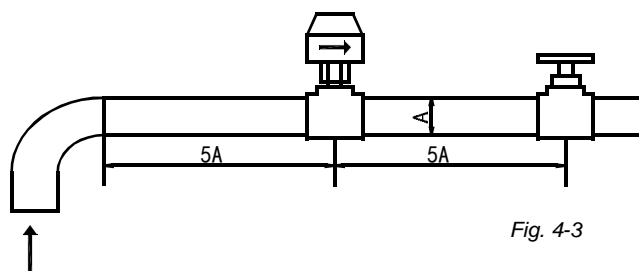

Fig. 4-3
c. The inlet pipe of the evaporator must be provided with a target flow controller, to realize flow-break protection for the unit. Both ends of the target flow controller must be supplied with horizontal straight pipe sections whose diameter is 5 times that of the inlet pipe. The target flow controller must be installed in strict accordance with "Installation & Regulation Guide for Target Flow Controller" (Figure 4.3~4.4). The wires of the target flow controller should be led to the electric cabinet through shielded cable (see Electric Controlling Schematic Diagram for details). The working pressure of the target flow controller is 1.0MPa, and its interface is 1 inch in diameter. After the pipelines are installed, the target flow controller will be set properly according to the rated water flow of the unit.
• Schematic diagram of target flow controller(see Fig.4-3 Table4-2)